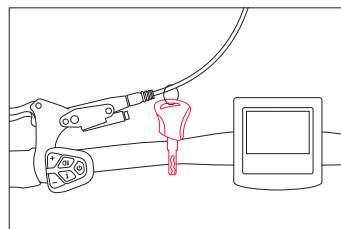

Figure 3
Step 1: Find the keys located on the handlebar (fig. 3) and remove them. If you cut them from the handlebars, be careful not to damage any of the wires.